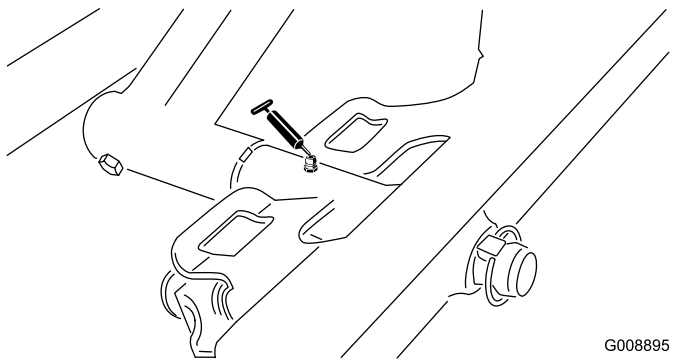

Figure 57
- Front cutting unit pivot (Figure 57)